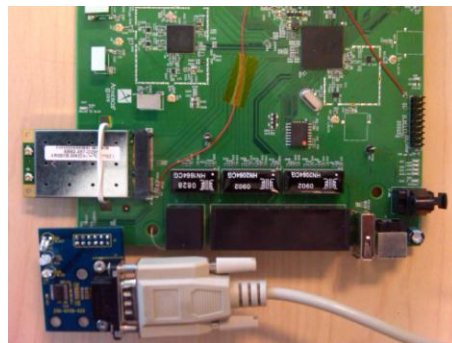

Figure 2 DB120 Setup
1. Connect the RS232 adapter to the UART port on the DB120. Match the non-sharp edge of the UART header to the non-sharp edge of the RS232 adapter connector. See Figure 2 for the correct orientation.